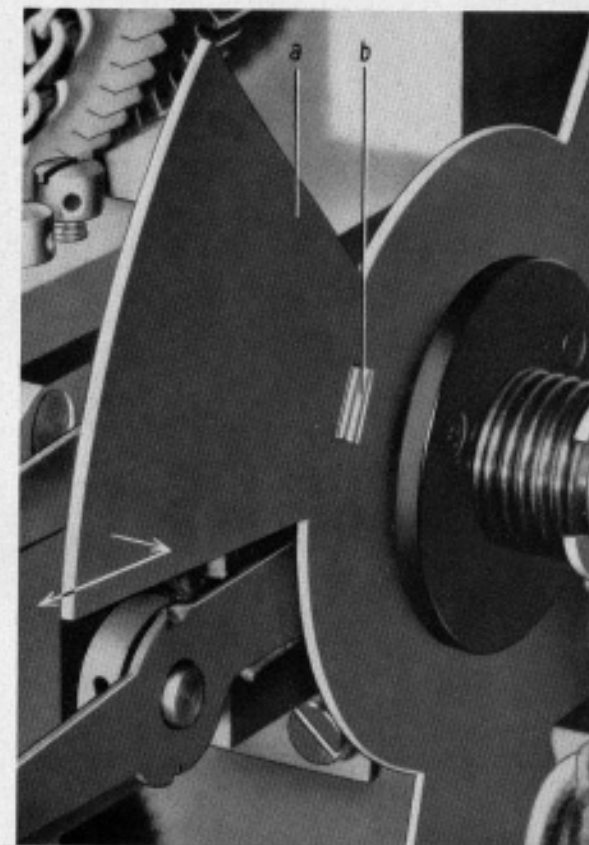

Fig. 7
2. Turn frame-frequency control 4 (Fig. 1) until driver b (Fig. 7) comes to front.